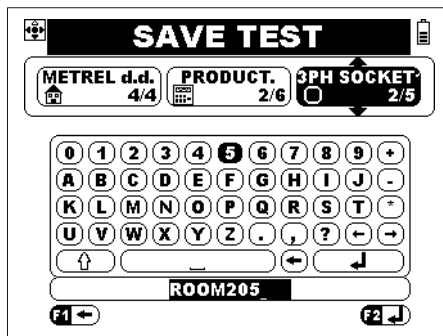

Figure 6.18: Entering name for the new location
- ❑ In 'Edit location menu' (see chapter 6.6, figure 6.18) the location name can be alternatively read from barcode.